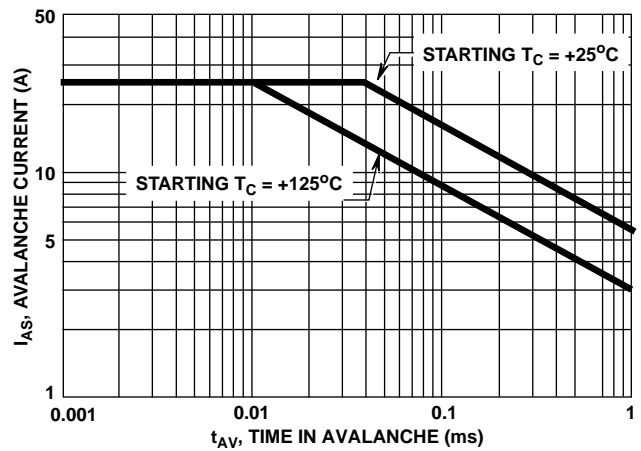

FIGURE 2. UNCLAMPED INDUCTIVE-SWITCHING
3.  $V_{DD} = 25V$ , Start  $T_J = +25^\circ\text{C}$ ,  $L = 1.5\text{mH}$ ,  $R_{GS} = 50\Omega$ ,  $R = 0$ . See Figures 2, 12, and 13.